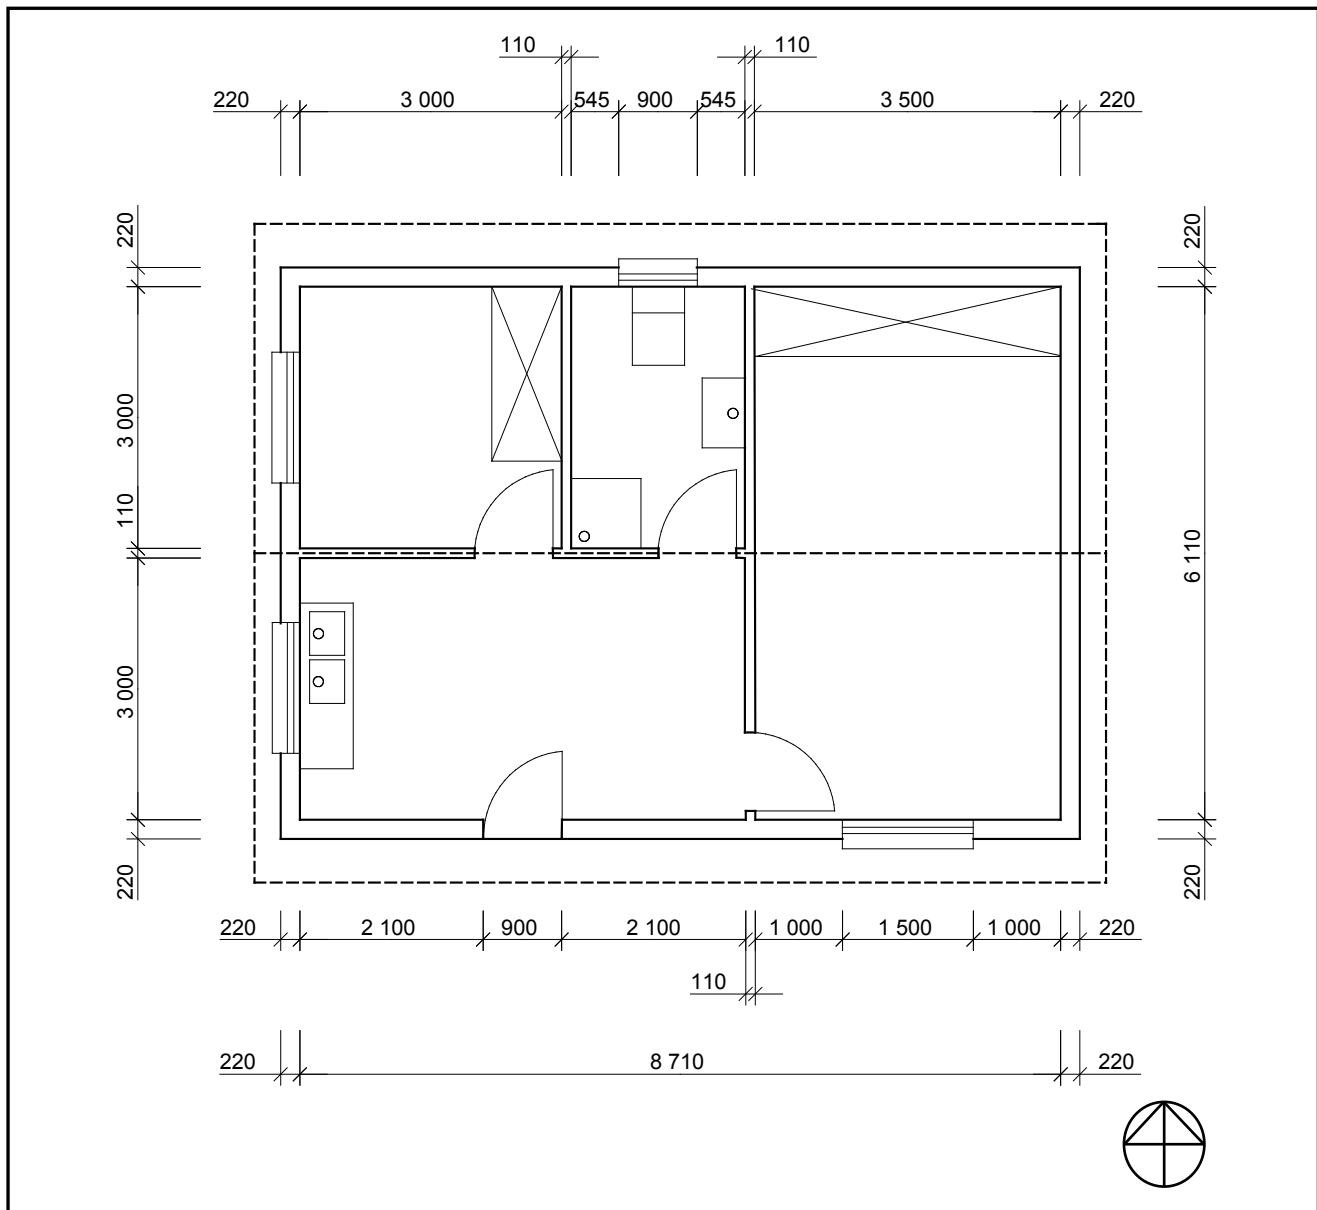

FIGURE 6.2
6.2 FIGURE 6.2 below shows the floor plan of a two-bedroom house.
- 6.2.1 Study FIGURE 6.2 and develop and draw, on ANSWER SHEET 6.2, to scale 1 : 50, the SOUTH ELEVATION of the building. Use the specifications below.